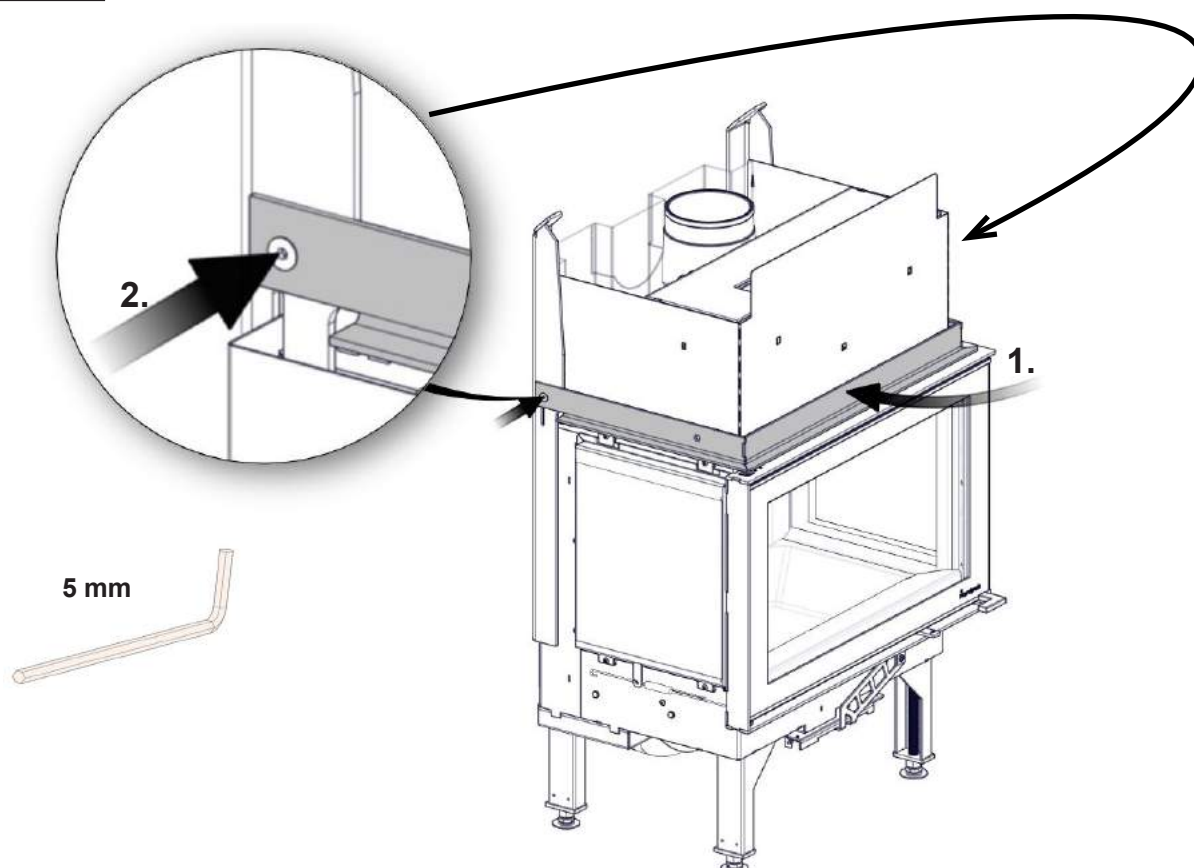

FIG 7
FIG 7 a
**FIG 7 b** Davos A Low\_N-29A